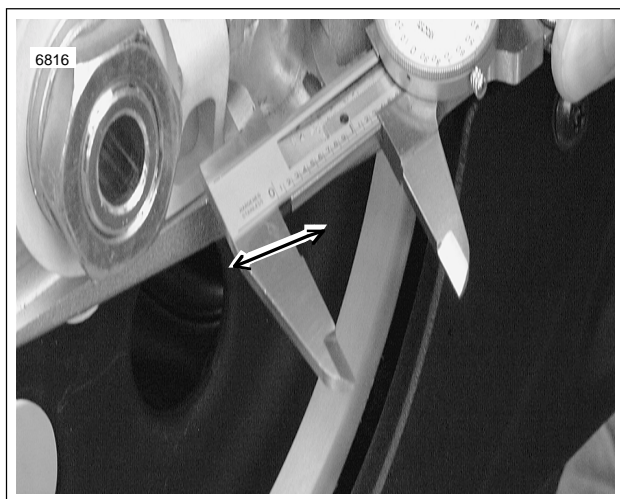

Figure 1-24. Checking Rear Wheel Alignment, Right Side Shown
1. See Figure 1-24. Measure each side from the flat of the axle carrier to the flat of the swingarm.